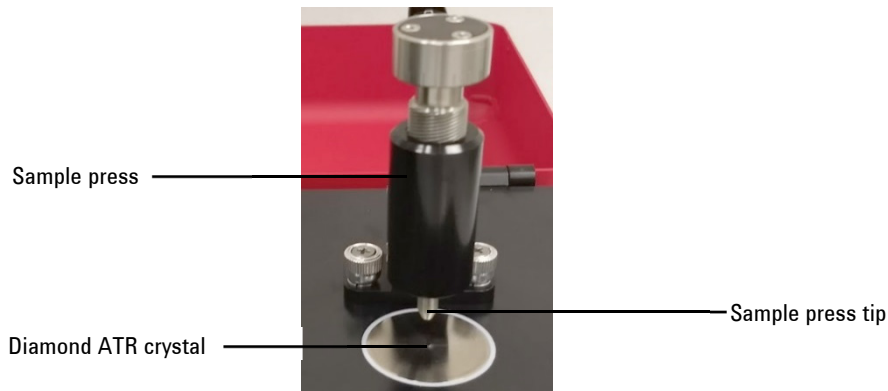

Figure 7. Sample press in highest position providing easy access for sample loading and cleaning
In the sample loading and cleaning mode, the sample press should be in the highest position, so the sample press tip is well above the diamond window sampling surface (see Figure 7). It is in this position that the sample mounting area can be easily accessed for loading the sample into place and for cleaning the sampling surfaces before the next sample is analyzed.
- 2 Clean the sample press tip first, then clean the sample mounting window, indicated in Figure 7.